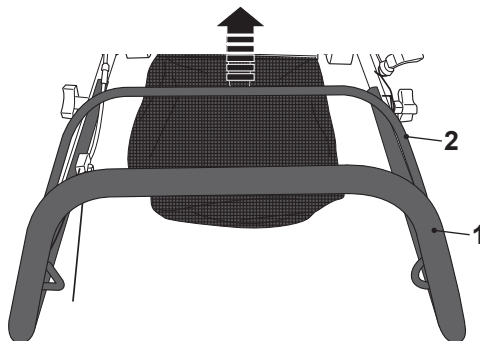

Fig. 18
Release the brake lever (2) to stop the engine and blade (Fig. 18).